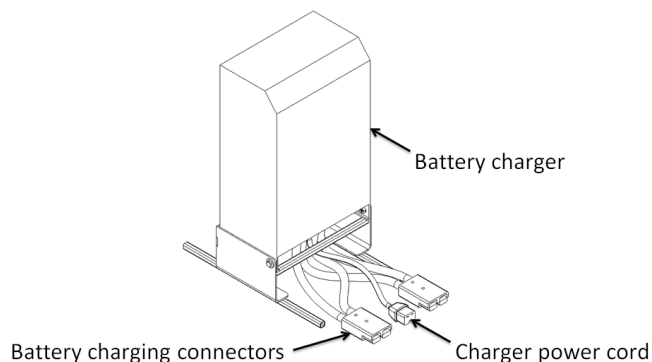

Figure 11 : Battery charger components
5. Plug the battery connectors in the mating connectors of the charger (see Figure 11). The charger may differ depending on the model of MINIDOZER.